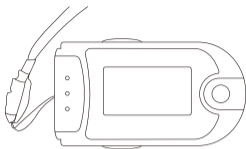

Figure 4 Mounting the hanging rope
Step 1. Put the end of the rope through the hole refer to Figure 4 .